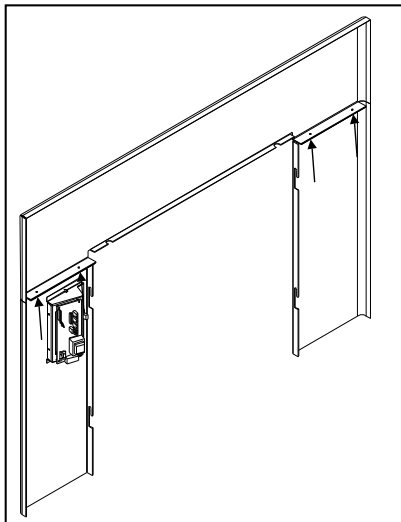

Figure 32: Assembled Surround Panel
1. To assemble the surround panels, lay the panels face down on a soft flat surface and align the outer edges of the sides with the top panel. Using four (4) T-20 screws up through the side panels into the top (see Figure 32).